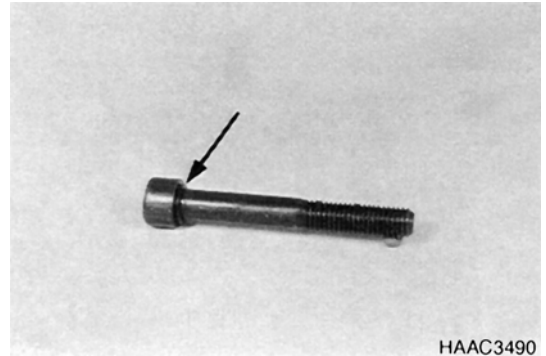

Figure 265
6. Install new O-rings on socket head screws (Figure 265).